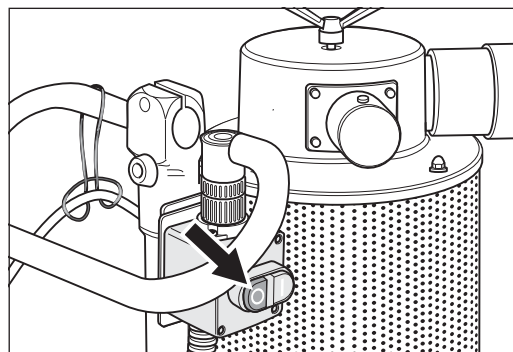

Fig. 22 To **switch** the machine **off**, push the **red** button **(0)** on the switch.
- 2 Push the red button **(0)** on the on/off switch (fig. 22).